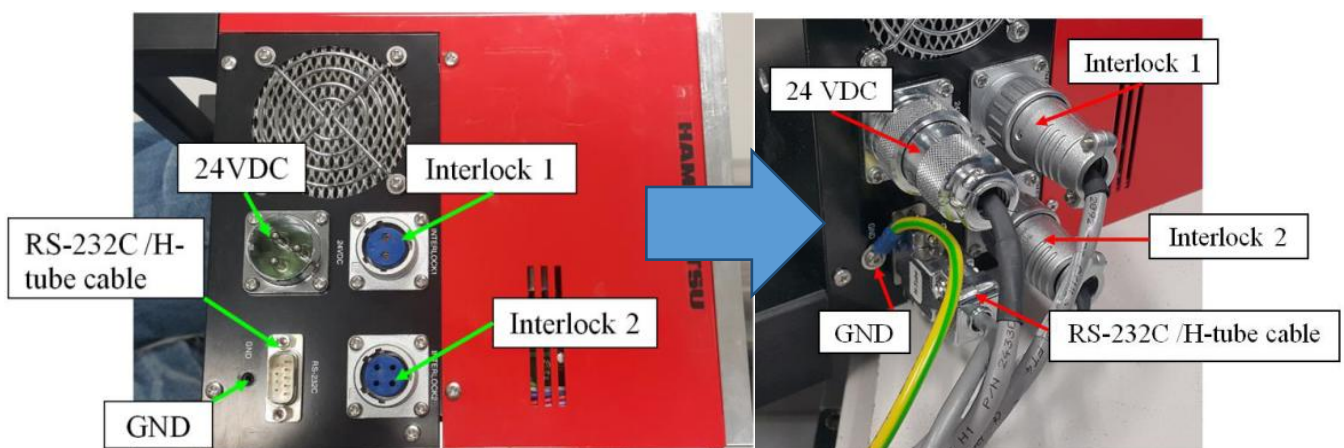

Figure 11
12. Connect all the cables to the X-ray tube panel as shown in Figure 11.